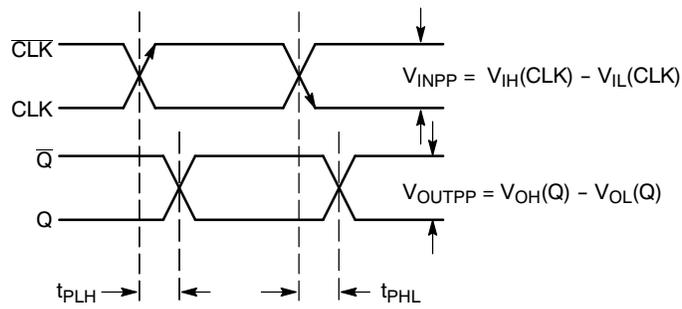

Figure 5. AC Reference Measurement
23. See Figure 5.  $t_{\text{SKEW}} = |t_{\text{PLH}} - t_{\text{PHL}}|$  for a nominal 50% Differential Clock Input Waveform.
28. See Figure 5.  $t_{SKEW} = |t_{PLH} - t_{PHL}|$  for a nominal 50% Differential Clock Input Waveform.